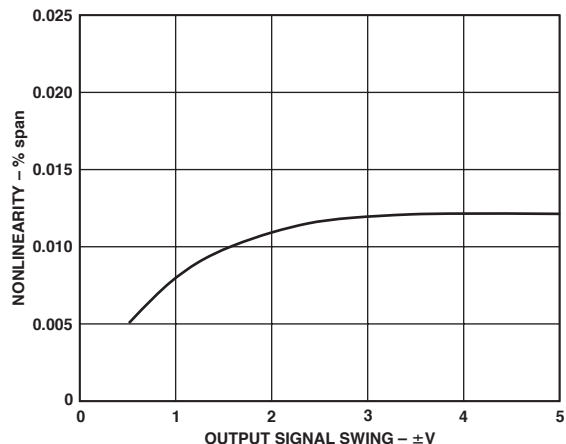

Figure 15. Nonlinearity vs. Signal Swing
**Operation at Reduced Signal Swing.** Although the nominal output signal swing for the AD202 and AD204 is  $\pm 5$  V, there may be cases where a smaller signal range is desirable. When that is done, the fixed errors (principally offset terms and output noise) become a larger fraction of the signal, but nonlinearity is reduced. This is shown in Figure 15.